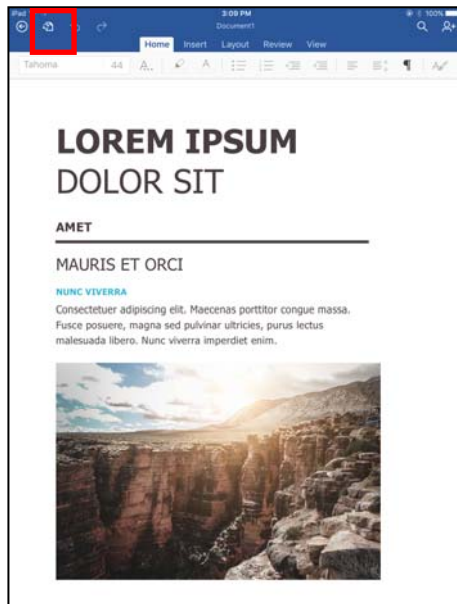

Figure 39
2.3 Click the menu icon on the upper left of the "Word" software interface, as shown in Figure 39.